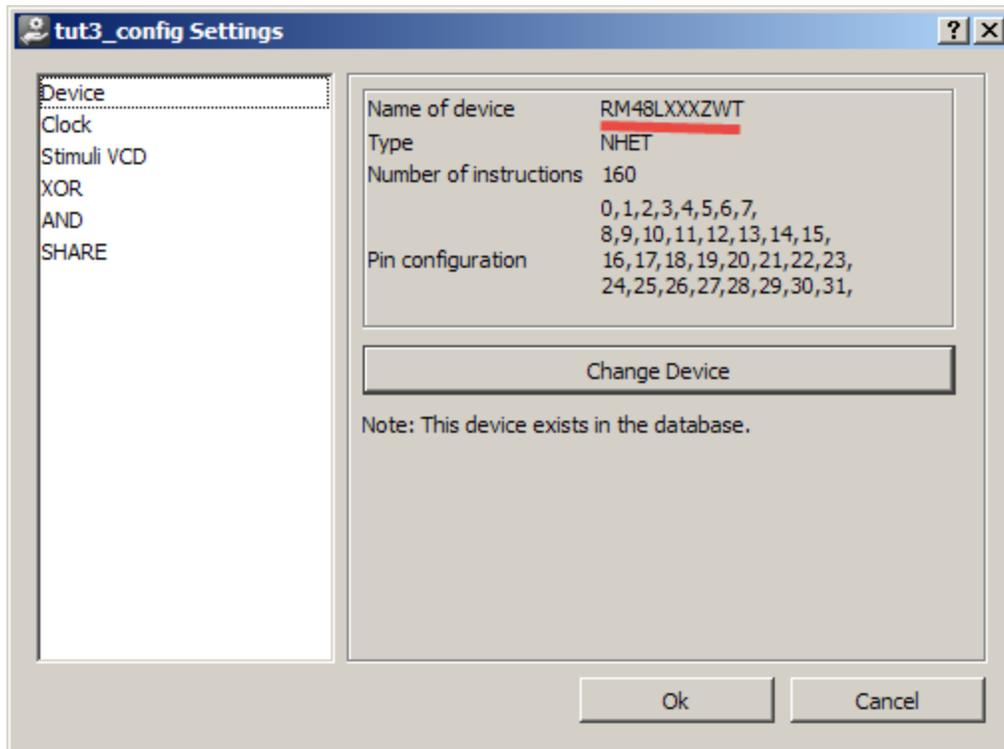

Figure 26. Project Properties Dialog Showing Newly Selected Device
- (e) Repeat step 3a, opening the project properties dialog again. This time you should see that your change to the device name has taken effect (see Figure 26).